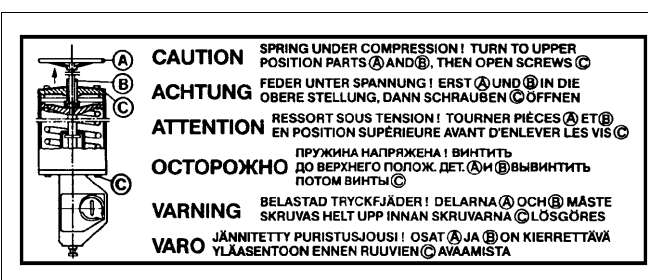

Fig. 21 B1JR actuator warning plate
The cylinder has a warning plate (43), see Fig. 21. When servicing the unit, check that the plate is in place and legible. Also check that the cylinder has the arrow sticker indicating the spring operating direction.